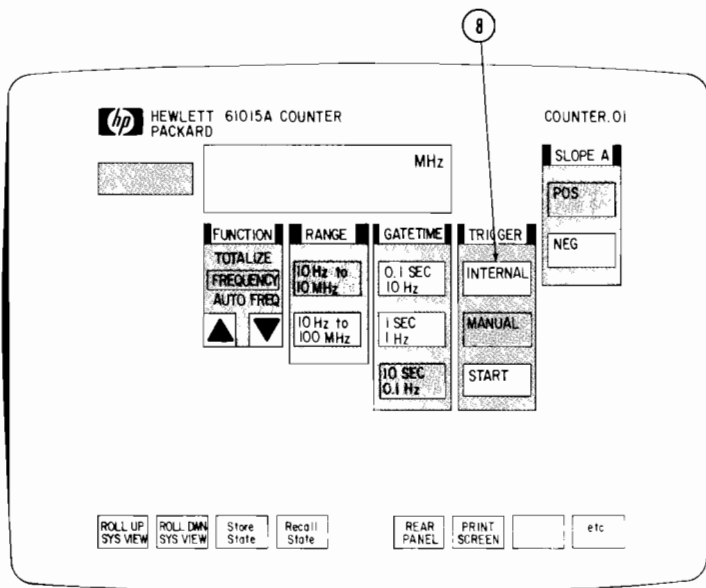

Figure 2-8. Return The Counter To Internal Trigger Mode
Step 8 - You can take another measurement by pointing to and selecting the START button again. Since the START button is only available when the Counter is in the Interactive Instrument Window, you should never leave the Counter in the manual trigger mode if you want the System View Window display to continuously update. To return the Counter to the internal trigger mode, point to and select INTERNAL. See Figure 2-8.